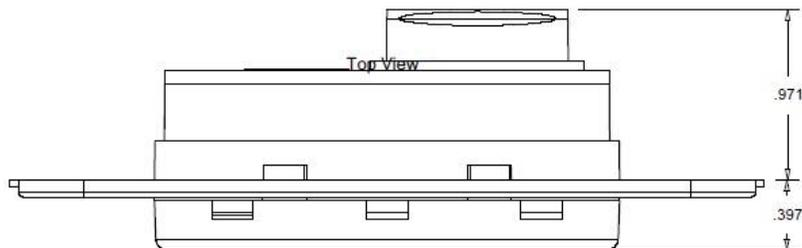

Figure 5- EasyTouch Display Top View Mounting Dimensions
1. Choose a wall location that has adequate depth (at least 17/25.4mm) behind the wall itself. See Figure 5 for the depth dimensions of the display.